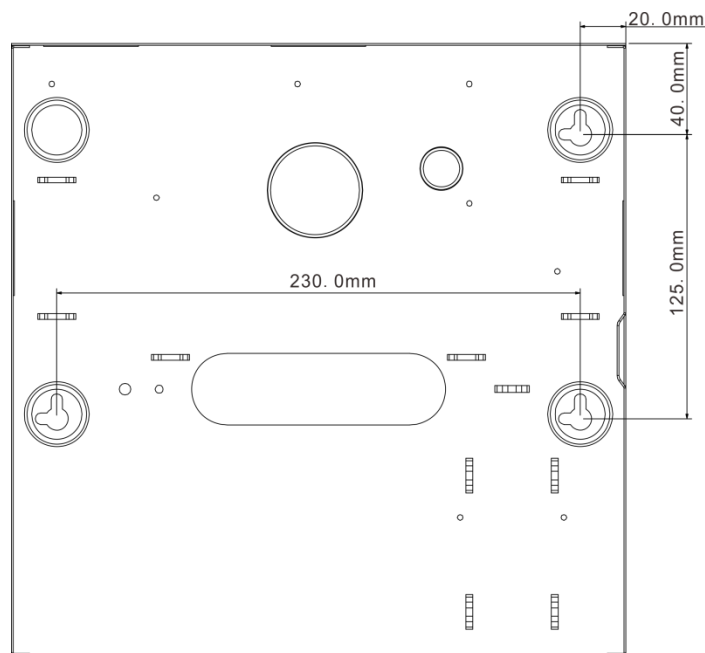

Figure 2-15
Step 2. See Figure 2-15, dig hole on wall, insert the plastic expansion bolt and fasten self-tapping screw.